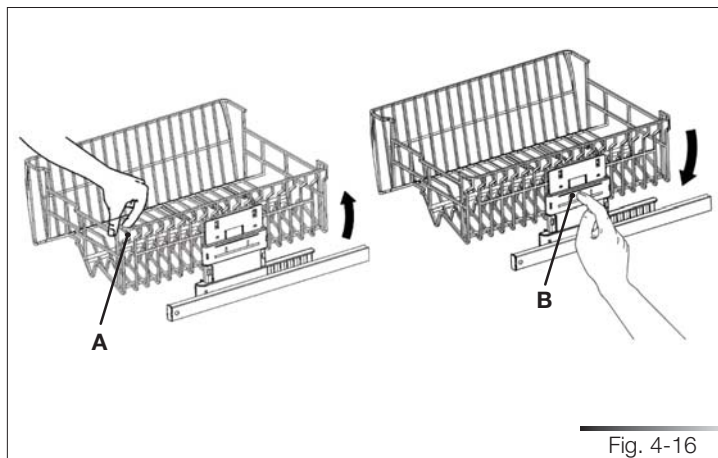

Fig. 4-16
Version B (see fig. 4-16):
- pull out the rack to its limit position and pull the right side upwards (ref. A fig. 4-16). At this point it is possible to load larger sized plates into the lower rack.
- to return to the original position, pull out the upper rack again and press the release lever (ref. B fig. 4-16).